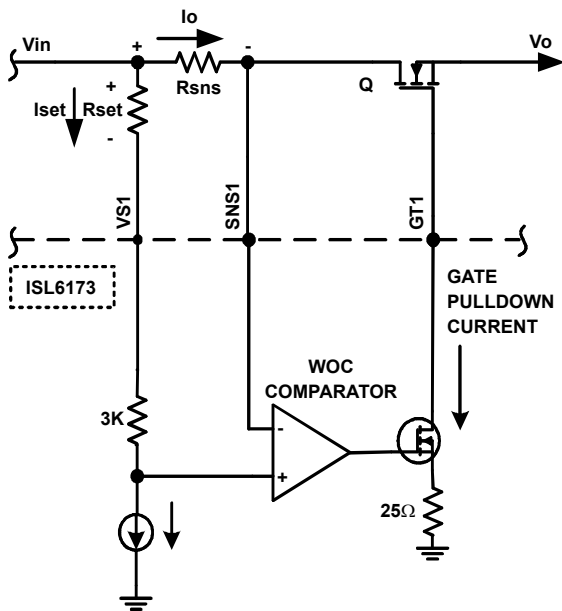

FIGURE 14. WOC OPERATION
**2. Way Overcurrent (WOC) Mode** - This mode is designed to handle very fast, very low impedance shorts on the load side, which can result in very high  $di/dt$ . Typically, the current limit set for this mode is 300% of the current regulation limit. This mode uses a very fast comparator, which directly looks at the voltage drop across  $R_{SNS}$  and pulls the gate very quickly to GND (as shown in Figure 14) and immediately releases it. If the WOC is still present, the IC enters current regulation mode and the rest of the current regulation behavior follows as described earlier in undercurrent regulation mode.